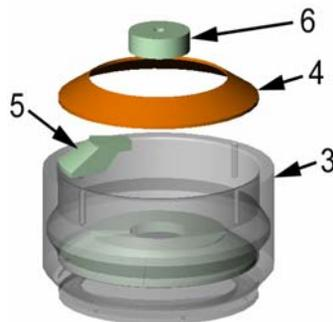

Figure 4: Pellet/Liner Assembly - Exploded View
2.4 Insert a cutter Pellet (item #5) with the larger flat surface, positioned down into the recess in the bottom of the Body, see Figure 4. The contour of the Pellet should fit the contour of the Body's interior surface.
- 2.5** Repeat installation of Pellets with each Pellet touching another until the Pellets make a complete circle, see Figure 4.